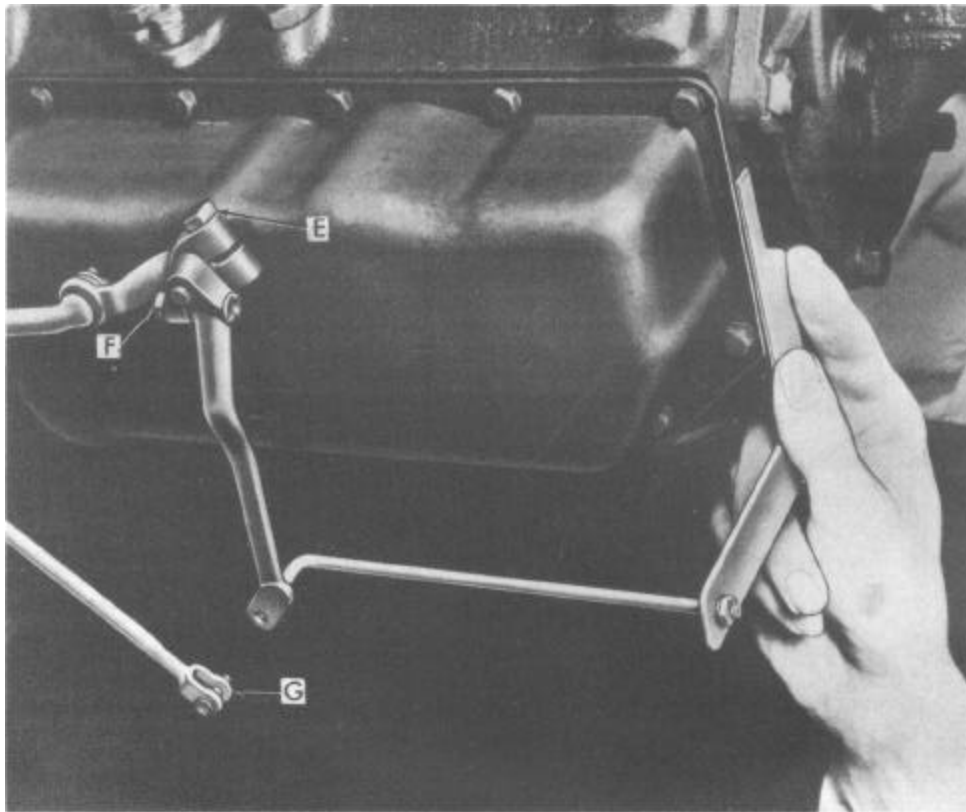

Figure 4
1. Check tightness of clamp bolt (E) Figure 4 in transmission outer shift lever to 10-13 ft. lbs. torque.
1. Tighten the clamp bolt (F) Figure 4 in the throttle control lever at the transmission to 12-15 ft. lbs. torque.